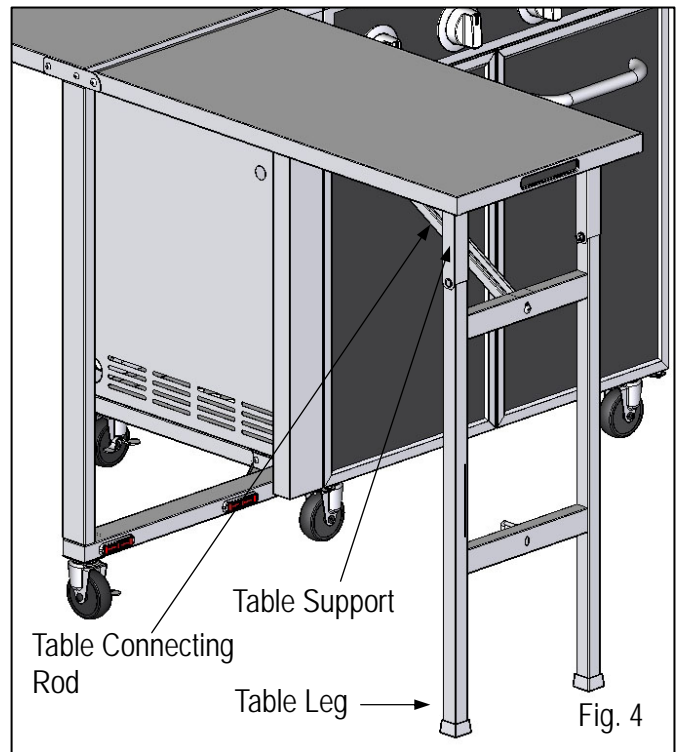

Fig. 2
1. Grasp the bottom edge of the table and raise it up to horizontal position. Hold the table in position until lowering the legs in the next step. (Fig. 2, 3)
2. Insert the provided orifice removal tool (B) into burner openings and unscrew orifices from ends of valves. (Fig. 2)
- Put the new orifice into the orifice removal tool (B), and then insert the tool into the burner opening and tighten the new orifice into the valve.